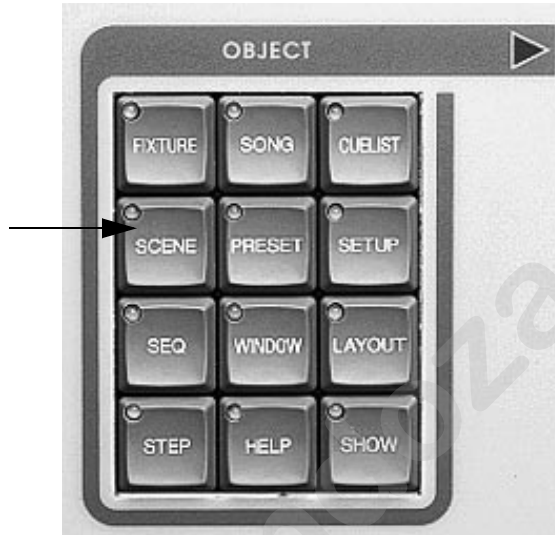

Figure 5.1. OBJECT Group
1. Press <SCENE> in the OBJECT group, the LED will illuminate. Refer to Figure 5.1. Alternately, you may select **Scene** from the **Object** drop-down menu.